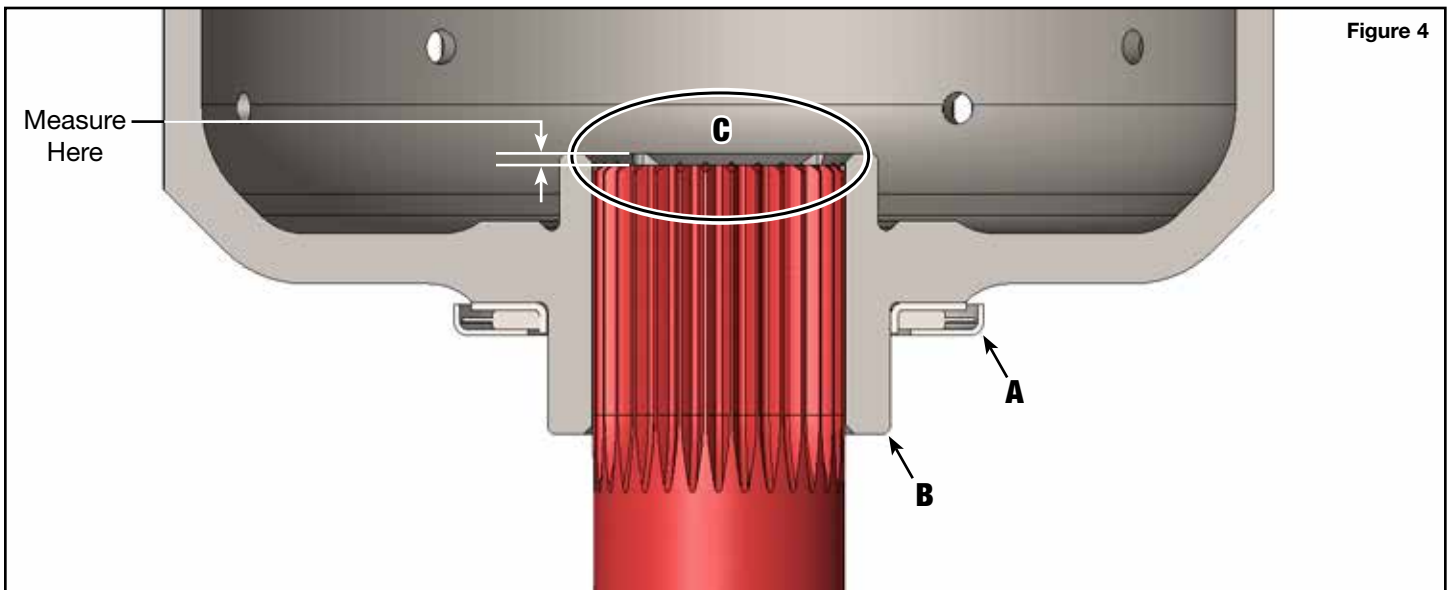

Figure 4
- Spline configuration requires a modified forward clutch hub with a thrust bearing between forward clutch hub and direct drum that transfers support of the forward clutch hub from the main shaft to the direct drum/sun tube (**Figure 4**). This requires machining OE-based forward clutch hub. The amount of material removed during machining depends on the thickness of the bearing used. Bearings commonly used at this location are C6 Forward drum bearing, AXOD bearing E6DZ-7F404-A or Delco 8623922.
- For OE-based forward clutch hubs, remove approximately .080" from rear face of forward clutch hub (**Figure 4, Location B**) to ensure main shaft end play is not transferred to forward clutch hub by shaft spline-end transition.
NOTE: Sonnax forward clutch kit **34322-02K** features bearing (**Figure 4, Location A**), material removed (**Figure 4, Location B**) and hardened external and internal splines.
With rear section, center support, direct drum installed and built up to point of forward clutch installation, place bearing (**Figure 4, Location A**) on direct drum and place forward clutch hub onto main shaft. Measure the height between the front face of the main shaft and the face of the forward hub (**Figure 4, Location C**), in the area circled. Remove the bearing at (**Figure 4, Location A**), reinstall the forward clutch hub and repeat measurement. If the difference in measurement (without the bearing in place) indicates the hub has moved farther rearward, then the forward clutch hub is not supported by main shaft and will be supported by the direct drum and sun gear shaft as intended.